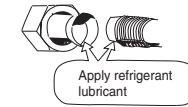

Fig. 5-4
- (1) Apply a sealing cap or water-proof tape to prevent dust or water from entering the tubes before they are used.
- (2) Be sure to apply refrigerant lubricant (ether oil) to the surface of a flare before making piping connections. Pay attention not to attach the oil to the surface of screw. This is effective for reducing gas leaks. (Fig. 5-4)